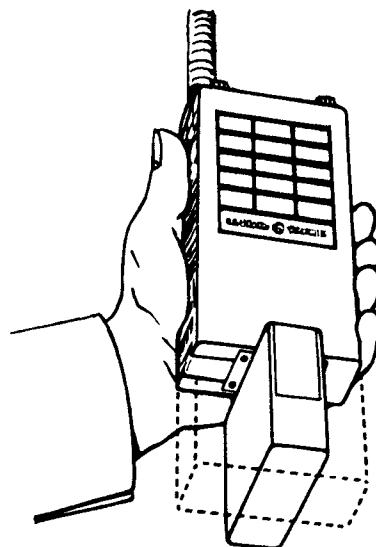

Figure 3 - Battery Pack Replacement
1. Hold the battery pack at a 90° angle to the radio as shown in Figure 3.